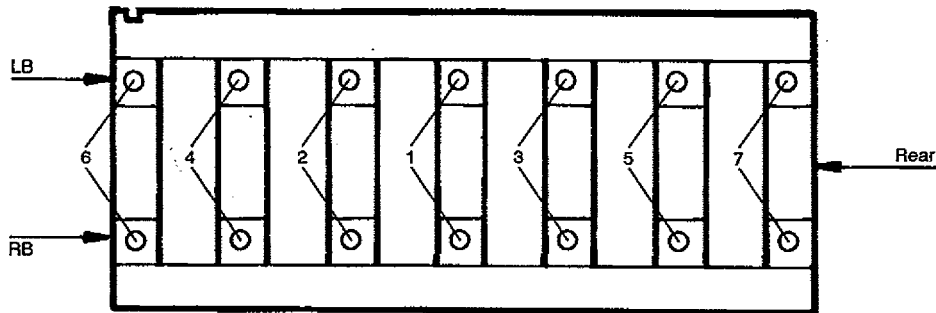
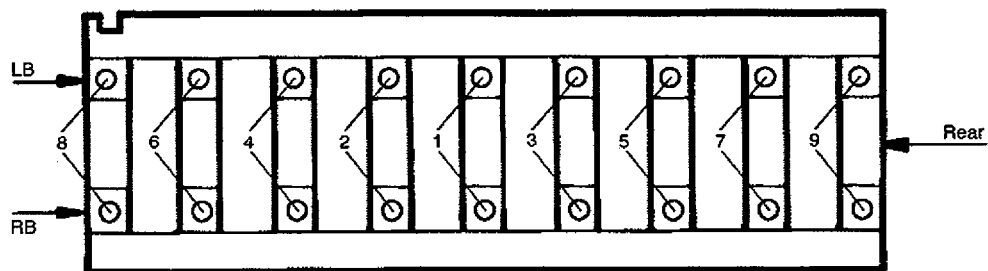

Fig. 6W
Fig. 7W
- 4 Use the following steps to tighten the main bearing bolts see sequence Fig. 6W (12 cyl) and Fig. 7W (16 cyl).